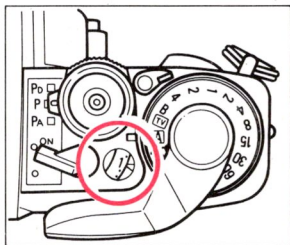

Fig. 20
6. Advance the film and press the Shutter Release Button a few times until "1" appears in the Exposure Counter. The film is properly advanced if the Film Rewind Knob rotates when the Film Advance Lever is stroked to advance the film. (Fig. 20)